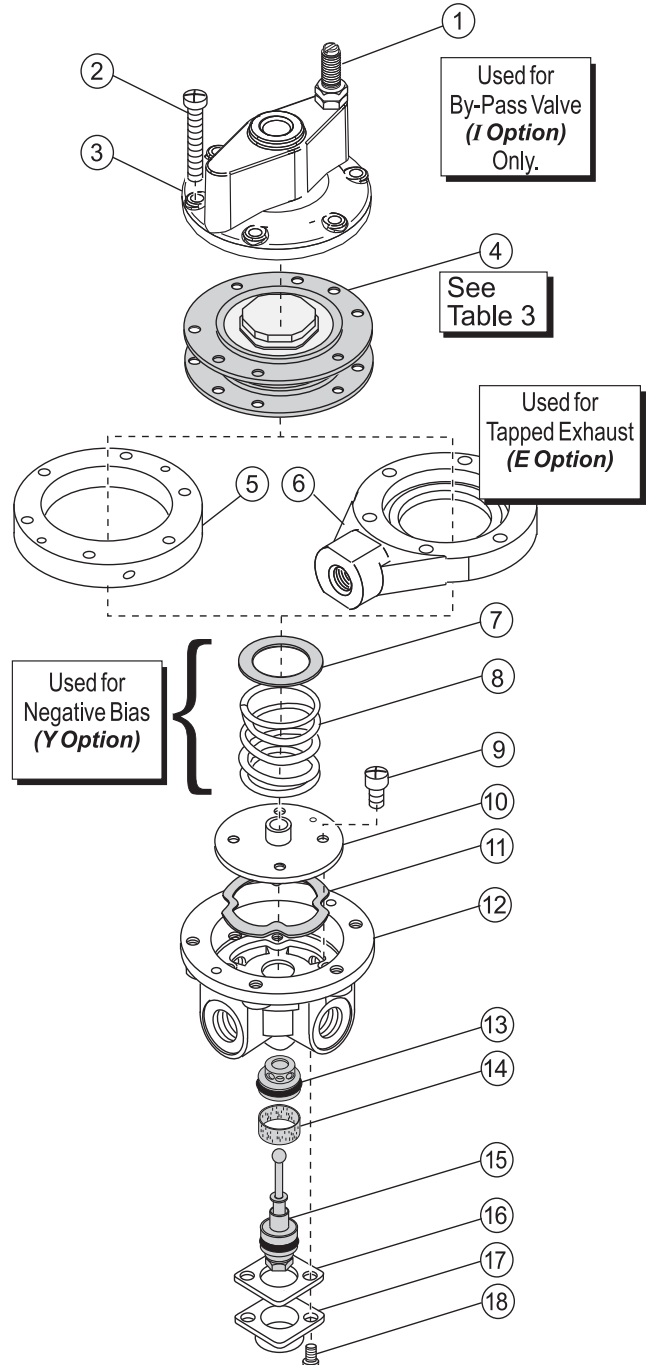
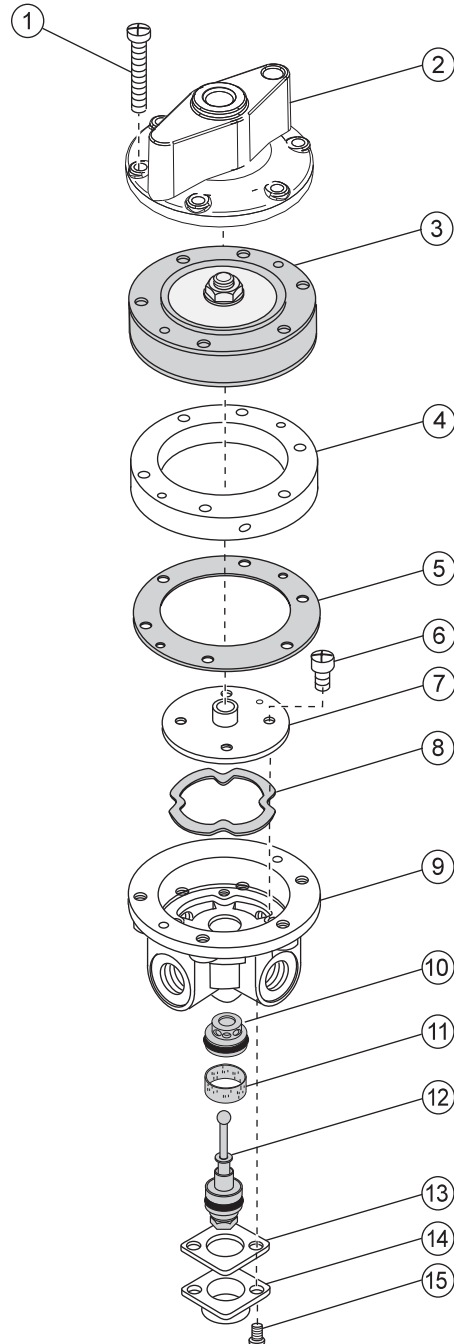

Figure 3. Exploded Drawing for 1:1, 1:2, 1:3, 2:1, & 3:1 Ratios.
Figure 4. Exploded Drawing for 1:4, 1:5, 1:6, 4:1, & 5:1 Ratios.
2. Remove the two Screws (20) from **Figure 3** or (15) from **Figure 4**.
3. Pull out the Inner Valve Assembly (17) from **Figure 3** or (12) from **Figure 4**. Wash the Seat on the Inner Valve Assembly carefully.
4. Wipe off any particles that may be attached to rubber Seat Assembly (15) from **Figure 3** or (10) from **Figure 4**.
5. Replace the assembly carefully. For more information, see **Figure 3** on page 2 or **Figure 4** on page 3.